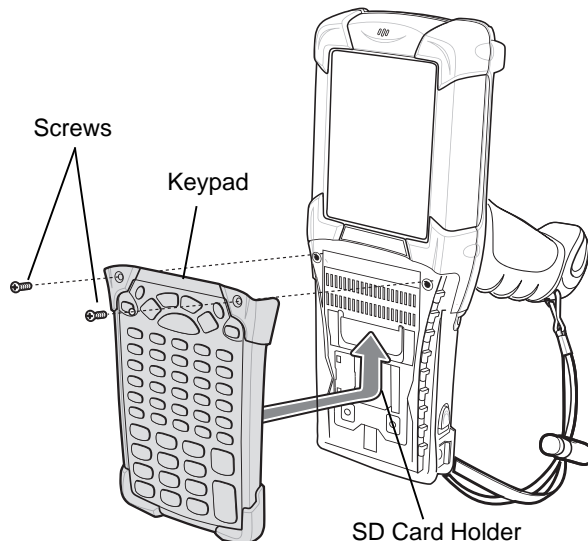

Figure 2-1 Removing the Keypad
The SD card provides secondary non-volatile storage. The SD card is located under the keypad (see Figure 2-1).
2. Remove the two keypad screws and slide the keypad down and lift off (see Figure 2-1 on page 2-5).